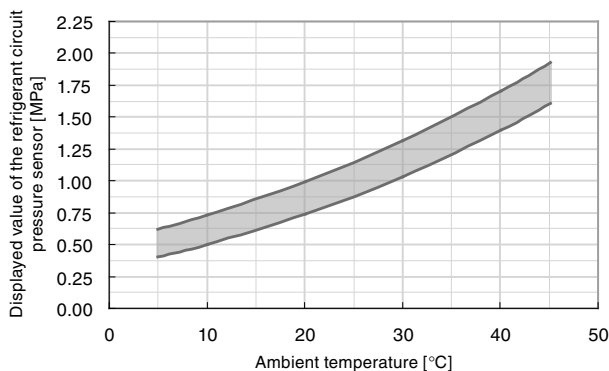

Fig. 4-6 Ambient temperature and refrigerant circuit pressure
- (1) Leave the Thermo-Chiller not operating for 24 hours to make the ambient temperature and the temperature inside the Thermo-Chiller the same.
- (2) Check the ambient temperature.
- (3) Check the “Ph: Refrigerant circuit pressure on the high pressure side” value in the “Check Monitor Menu”.
- (4) Check if the value at the cross point of the ambient temperature and the “Ph: Refrigerant circuit pressure on the high pressure side” value is within the range (the shaded part) in Fig. 4-6. If the cross point is within the range, it means that the pressure sensor is operating correctly.
- (3) Check “PL: Refrigerant circuit pressure on the low pressure side” value in the “Check Monitor Menu”.
- (4) Check if the value at the cross point of the ambient temperature and the “PL: Refrigerant circuit pressure on the low pressure side” value is within the range (the shaded part) in Fig. 4-6. If the cross point is within the range, it means that the pressure sensor is operating correctly.